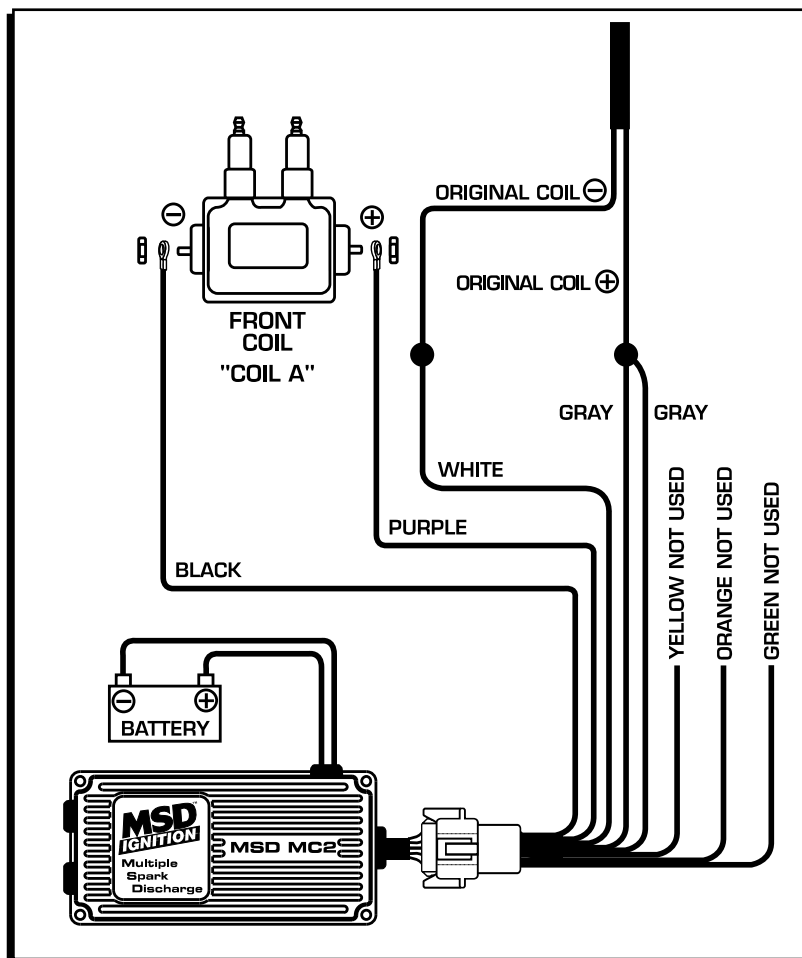

Figure 3 Wiring to a Stock Single Coil System.
**Single Coil:** Attach the coil's negative wire to the White wire of the MSD (Figure 3).
5. Review your wiring with Figure 3 or 4 and make any corrections. If everything matches, connect the heavy Red wire to the battery positive (+) terminal and the heavy Black wire to the negative (-) battery terminal. The wiring is complete.